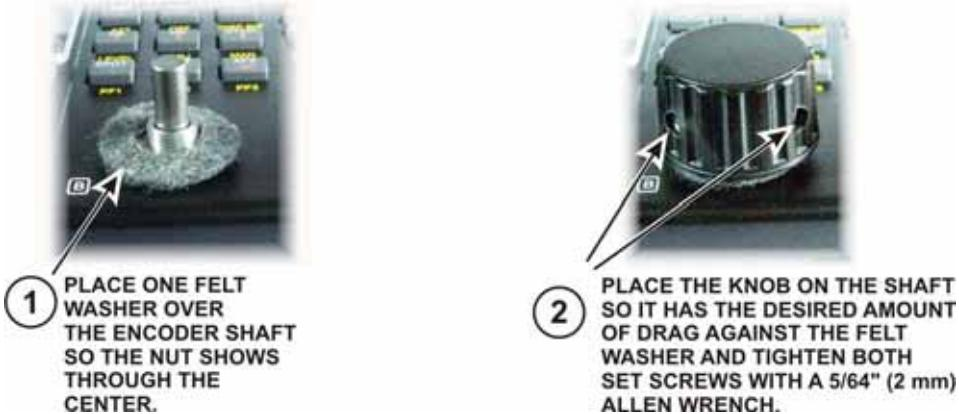

Figure 50. Mounting the VFO B Knob.
- Mount the last knob on the VFO B encoder shaft to the right (under the pushbutton switches) as shown in Figure 50. Before tightening both set screws, adjust the position of the knob against the felt washer to produce the desired amount of drag for smooth movement without the knob turning too freely.